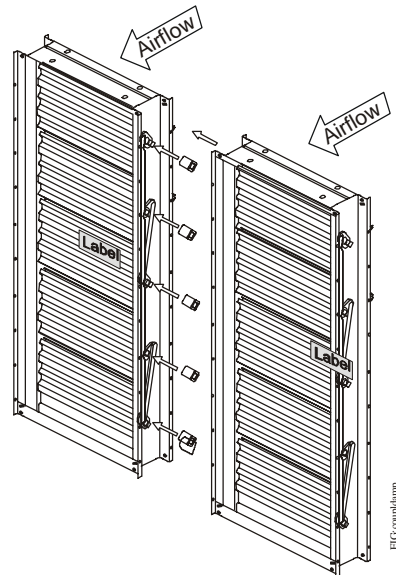

Figure 4: Coupling Dampers
2. Place couplers (not provided) on each blade pin on one panel as shown in Figure 4.